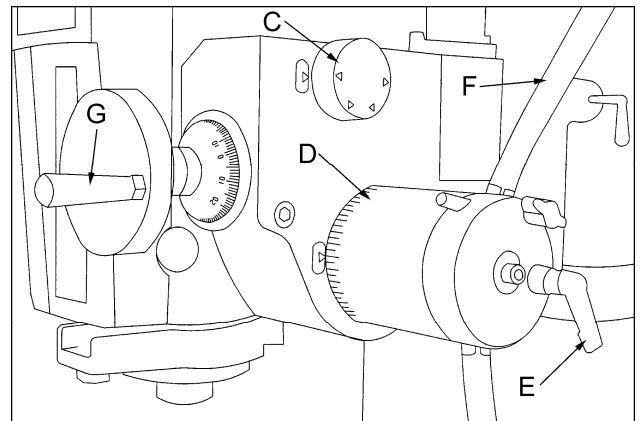

Fig. 14
1. Set the power feed speed range dial (C, Fig. 14) to the desired rate.
2. Set the depth stop to the desired setting by lowering the quill to the desired depth and holding in place. Turn the collar (D, Fig. 14) counter-clockwise until zero is indicated and then tighten the lock handle (E, Fig. 14)
3. Start the mill/drill and pull one of two handles (F, Fig. 14) away from the column to start the power downfeed.
5. To stop the feed before the cycle has ended or to disengage the fine feed (G, Fig. 14), press one of two handles toward the column.